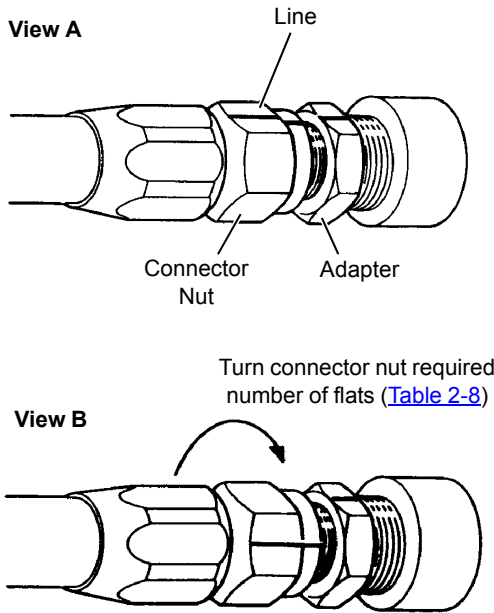

FIGURE 2-13
2. Mark a line (use felt pen or marker) on adapter and extend it onto connector nut (Figure 2-13, View A).
3. Using wrenches, tighten connector nut the number of flats shown in (Figure 2-13, View B).